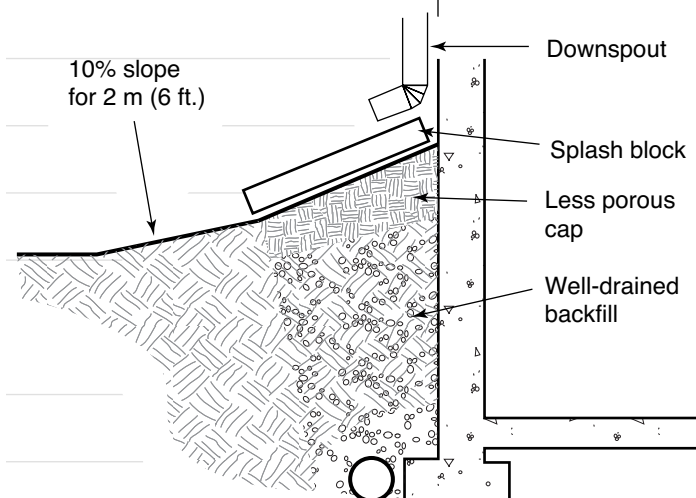

FIGURE 21
- ◆ While a 2 percent slope away from foundation walls is commonly specified, a 10 percent slope away from the wall for the first 2 m (8-in. slope in 6 ft., 6 in.) is recommended. This increase will ensure positive slope away from the building after the ground has settled around the foundation (see Figure 21).